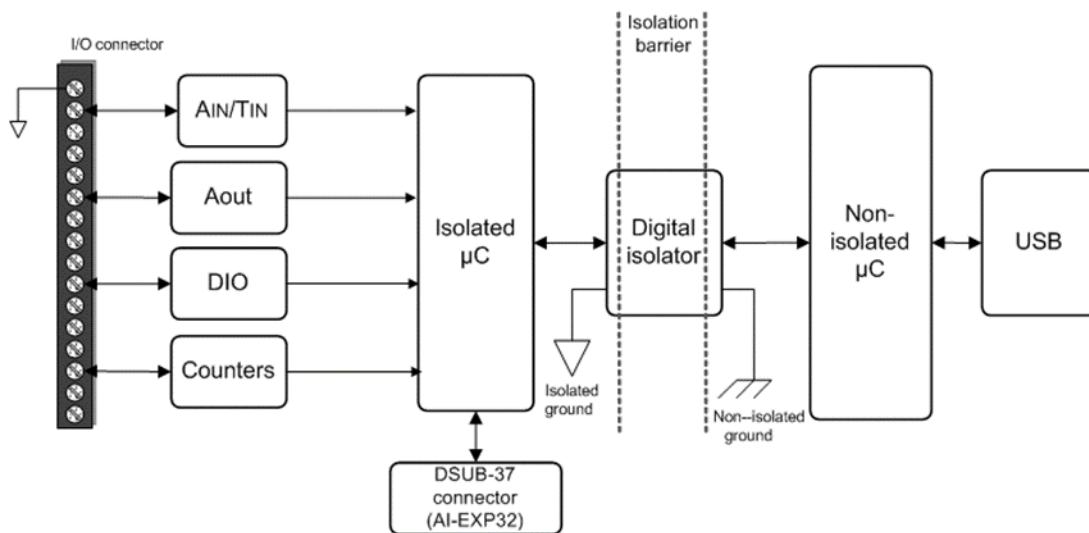

Figure 12. USB-2416-4AO input isolation diagram
- All analog measurements are made relative to the isolated ground. See Figure 12 for details.